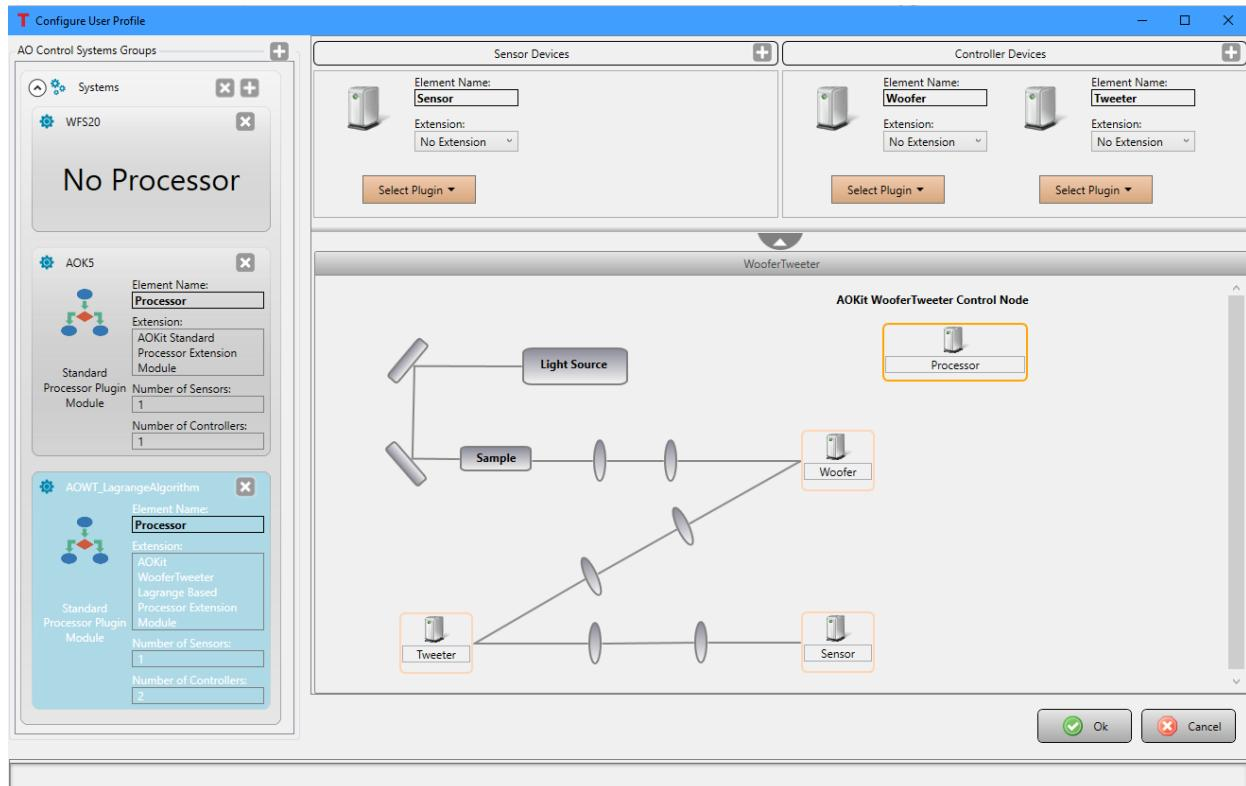

Figure 87 Configure the User Profile window with newly created **AOWT_LagrangeAlgorithm**; the sensor and controller are not selected.
3. Click the **Ok** button to continue. This will update Configure User Profile window, showing the newly created system. Figure 87 shows the Configure User Profile window, with a newly created system titled `AOWT_LagrangeAlgorithm` within the Control System Group titled `Systems`. The `AOWT_LagrangeAlgorithm` system displayed within the Control Systems Groups section at the left of the window shows the processor extension name (AO Kit WooferTweeter Lagrange Based Processor Extension Module in this example), and the number of sensor and controllers supported by the processor extension is noted. There are no devices linked to the system, evident with no sensor or controller device listed under either category on the right side of the window.
5. Follow step 6 in Section 7.1 to select controller device for Woofer element. In this example the DMP40 controller modules is selected (Figure 87).